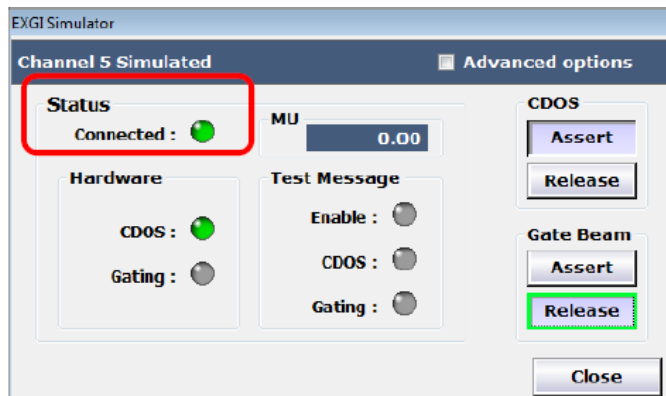

Figure 57: Successful CDOS Exertion Test
- With the EXGI Simulator, Click “Assert” and “Release” **CDOS** for each Gating Device channel. Figure 57 is an example of a successful assertion of **CDOS** test